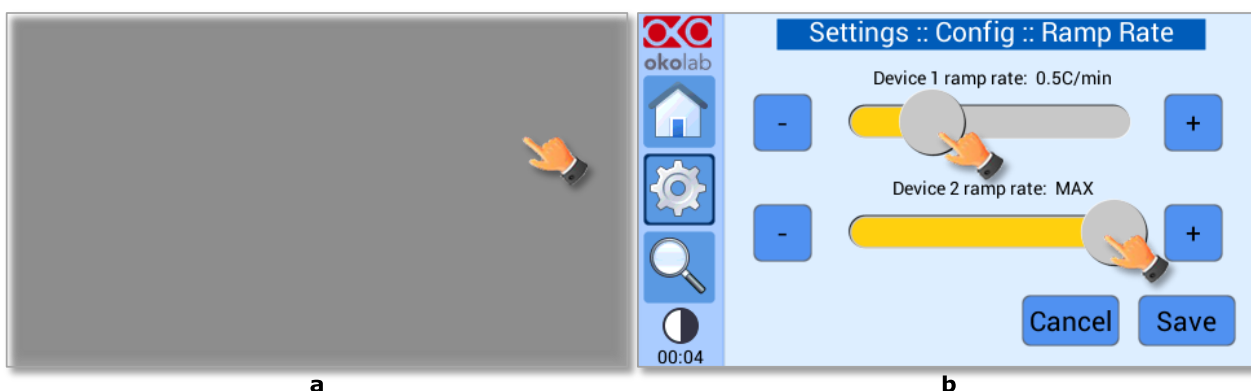

Figure 29. Ramp Rate. (a) How to enter the ramp rate menu; (b) Definition of the ramp rate
- 1 Press on the *Ramp Rate* icon , see Figure 29(a)
- 2 Use the slide bar or the + and – icons to select the maximum heating rate (in °C/min) for each device and save, see Figure 29 (b)